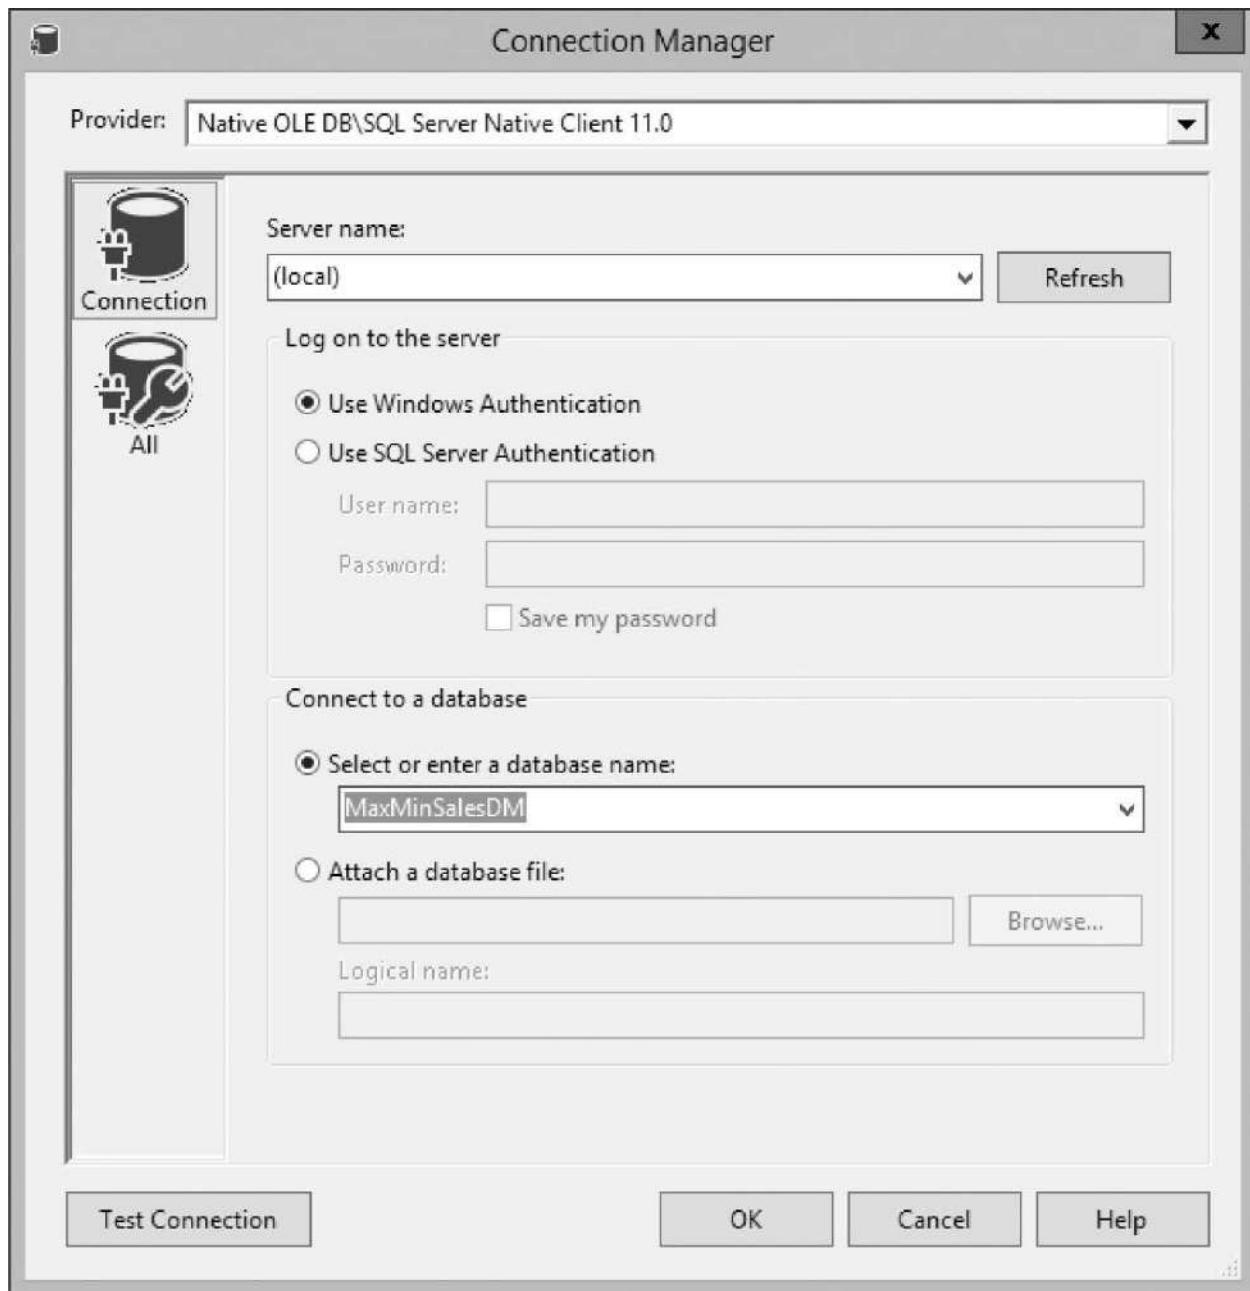

Figure 6-32 The Connection Manager dialog box
48. Select MaxMinSalesDM from the Select or enter a database name drop-down list. (A valid set of credentials must be specified before the drop-down list is populated.) The Connection Manager will appear as shown in Figure 6-32.